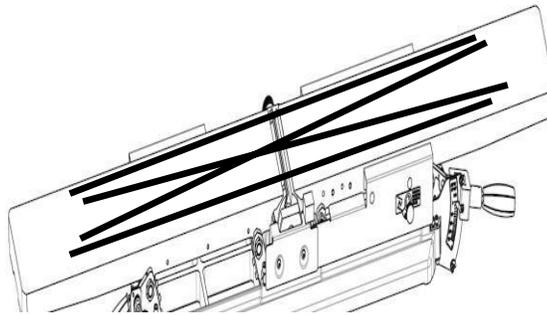

Figure 29: Checking tables for alignment
STEP 4: Place a straight edge across the tables in positions as shown in **FIG. 29**. In each position, the straight edge, should rest flat and fit flush with both infeed and outfeed tables (not on an insert knife). If it does not, follow the steps in Outfeed Table and Infeed Table adjustments.